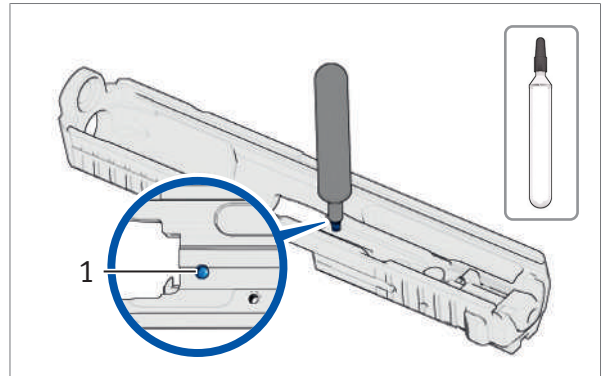

Fig. 65: Flush firing pin bore with oil
2. Flush firing pin bore with oil until it is free of sealant (*Fig. 65*).